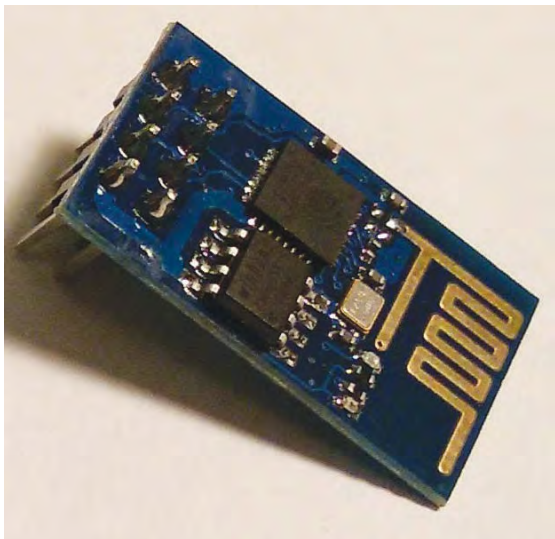

Fig.2 The ESP8266 board – a complete, stand-alone Wi-Fi interface
*Fig.2. In order to make it quick and easy to use, a stock of components should be well organised. Suitably labelled miniature chests of drawers are ideal for storing components in a properly organised fashion*
The ESP8266 is a fantastic device; it's a highly integrated 32bit CPU and Wi-Fi transceiver, all in a single integrated circuit. Boards based on this chip are tiny, and very, very cheap – testament to the highly integrated nature of the ESP8266. ByVac's offering is shown in Fig.2.